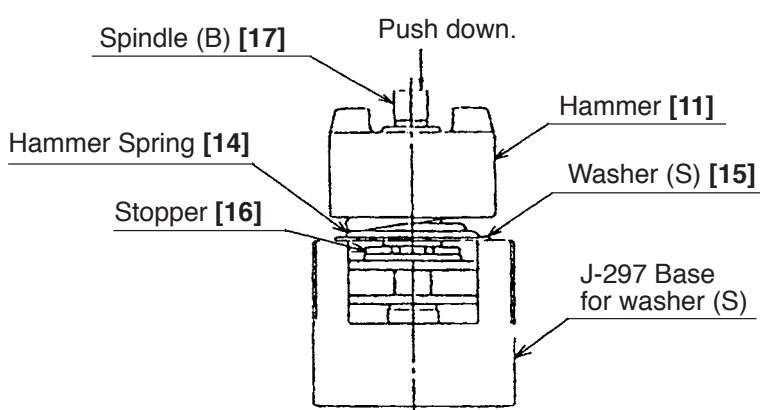

Fig. 8
With a hand press, push down the top of Spindle (B) [17] to compress the Hammer Spring [14]. In this position, remove the Stopper [16] with a flat-blade screwdriver, then release the hand press. (See Fig. 8.)